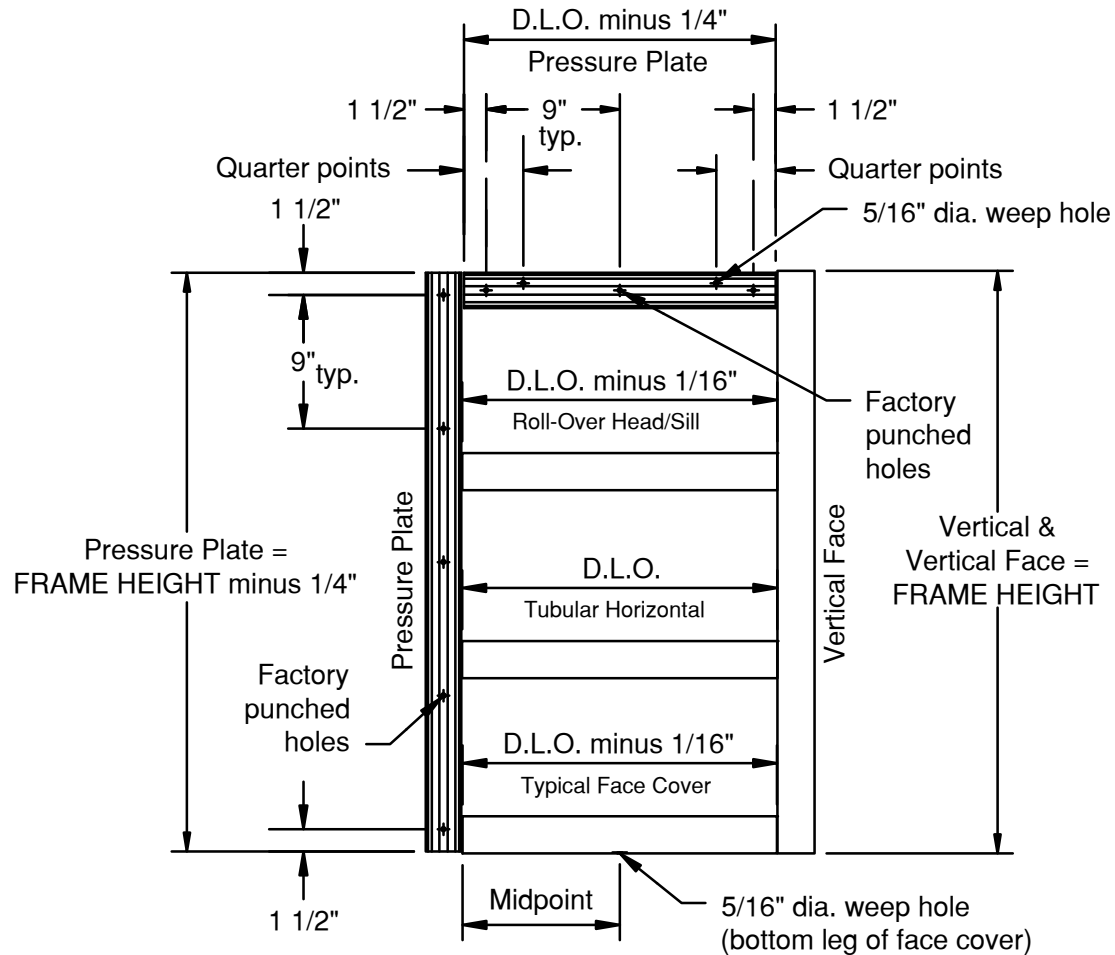

FIGURE 1
1.2 Cut material to size. SEE FIGURE 1 for guide.